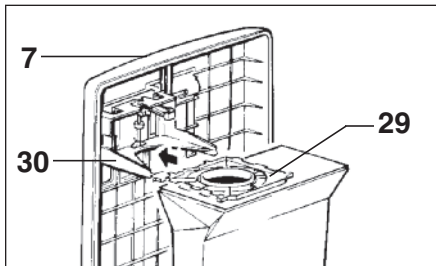

Figure 9
Changing the Dust Bag - Figure 9
2. Bag not inserted properly	2. Reinsert bag with cover release flap (5) up, until firmly latched in bag holder (see pg. 8, figure 9).